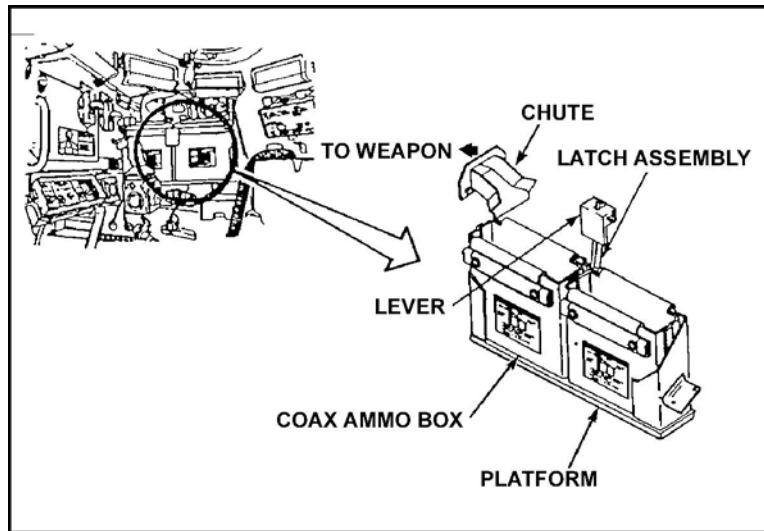

Figure 1. 7.62-mm access chute.
1. Access the 7.62-mm coax ammunition chute. Remove any debris from the coaxial ammunition box (Figure 1).